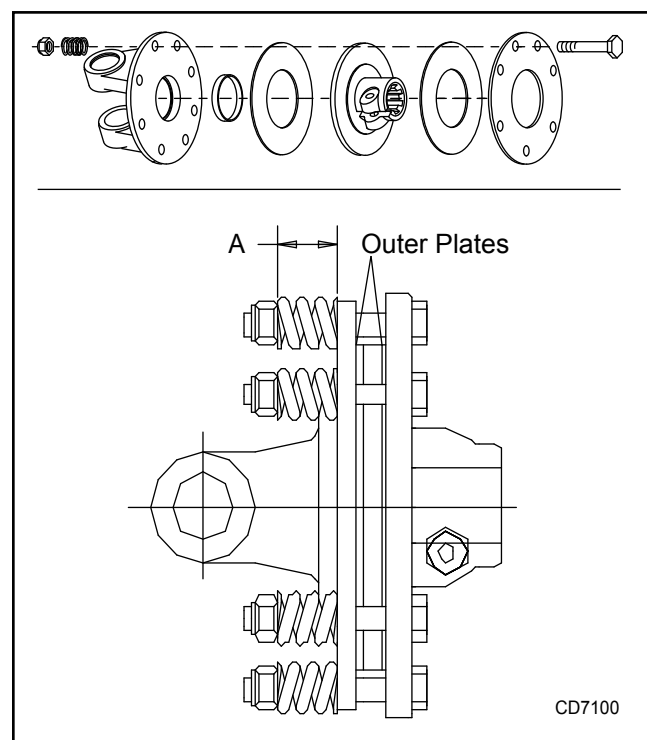

Figure 13. Slip Clutch Assembly
3. Mark outer plates of slip-disc clutch as shown in Figure 13.
9. Reassemble clutch and tighten bolts no more than 1/8 of a turn at a time until desired setting of 1.26" is reached for BF4.20, BF5.20 and BF6.20. For BF4.30 and BF5.30 cutters, set to 1.12". See dimension A on Fig 13.